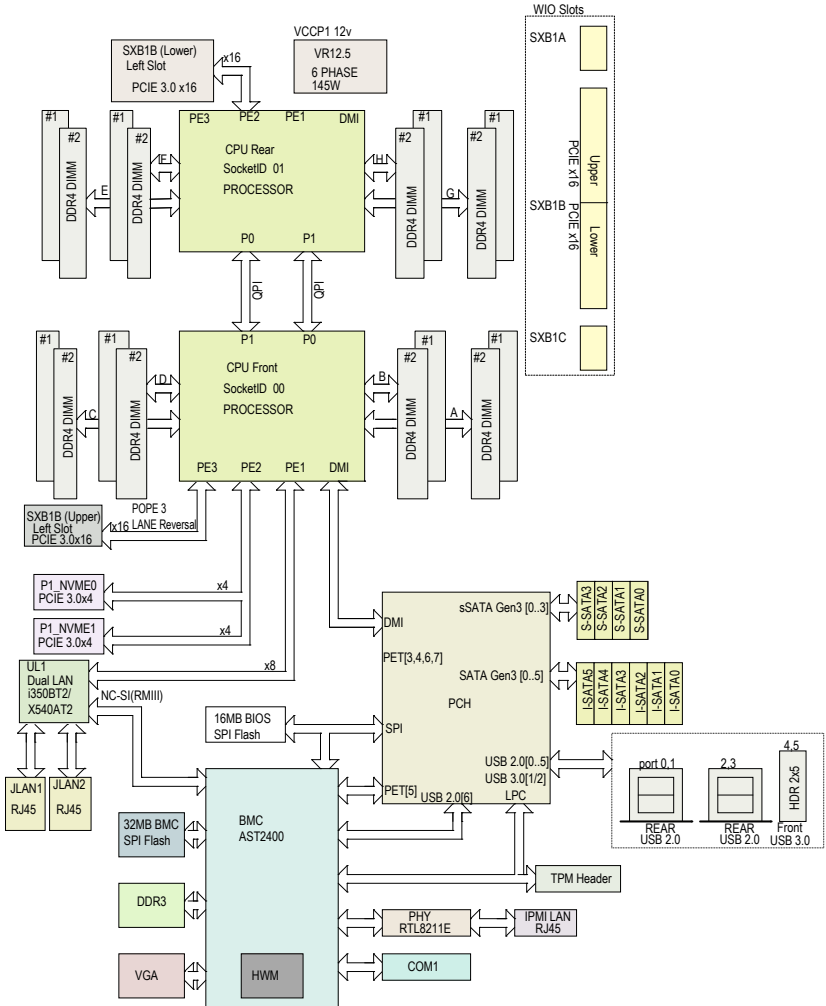

Figure 1-1. Intel C612 Express Chipset Block Diagram
At the heart of the 1028R-WMR(T) SuperServer is the X10DRW-E(T), a dual processor serverboard based on the Intel C612 Express chipset. Below are the main features of the system (See Figure 1-1 for a chipset block diagram).